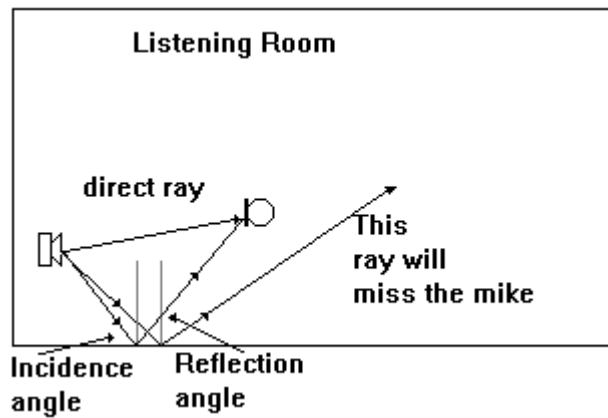

Figure 1. Incident and reflection angles.
For the purpose of reviewing the issues associated with room acoustics in mid-frequency range, I would like to start with a simple case depicted in Fig 1. Let's assume that there are only two audio paths arriving at the test microphone.
If the reflecting surface is hard, there is no phase change between incident and reflected rays. Please note, that the two angles are equal, so not every ray will reach the microphone. Figure 1 depicts the case, where two rays are combining at the microphone: (1) direct ray and (2) single ray reflected from the floor. The difference in length between these two paths is 10 cm.